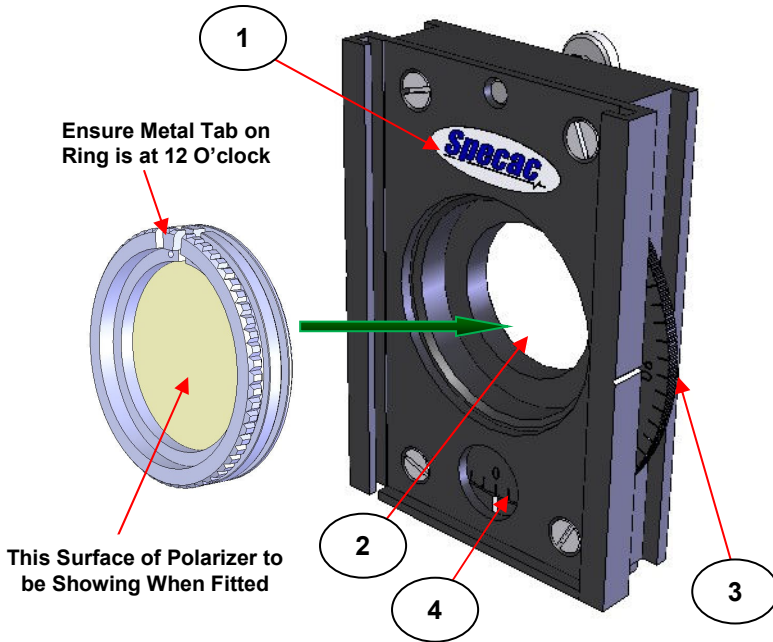
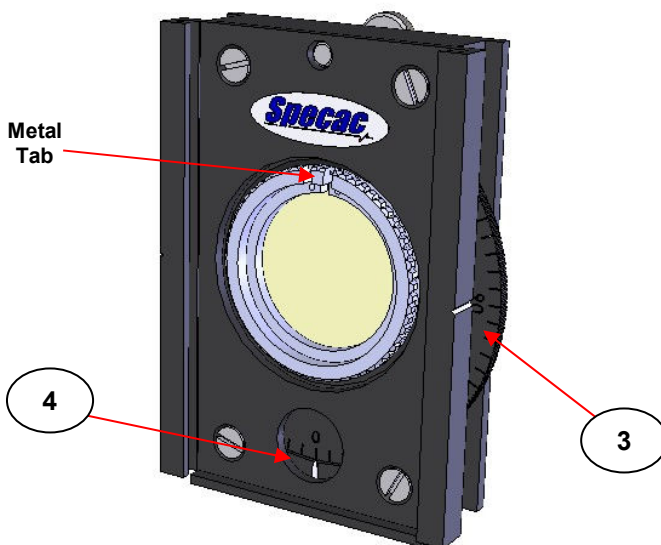

Fig 3. Insertion of GS12000 Series Polarizer into the Polarizer Rotator 3" x 2" Slide Mount
Fig 4. A GS12000 Series Polarizer Fitted into P/N GS12500
As shown at Fig 3. and Fig 4. please see how a GS12000 Series polarizer is fitted into the polarizer rotator 3" x 2" slide mount (1).
From **Fig 3.** the GS12000 Series Polarizer is to be positioned within the aperture (2) of the rotatable mount (1) with the knurled surface side of the spring clip ring mount of the polarizer facing outwards such that the metal tab is seen. In this way the polarized grid deposited on the surface side of the substrate material of the polarizer is facing inwards to aperture (2) of the rotatable mount (1) and helps to minimize any risk of accidental touching of this surface from finger print marks, when installing the polarizer.
As shown in **Fig 3**, the metal tab on the spring clip ring mount of the GS12000 Series polarizer should be aligned for insertion into the aperture (2) at a 12 O'clock position with respect to the polarizer circular face. (See **Fig 4**.) When the polarizer is installed in this position in the aperture (2), the lines of parallelism of the polarizer grid are running from the 12 O'clock to the 6 O'clock position of the polarizers circular face. When inserting the polarizer in this orientation ensure that the angle mark showing in the rotator mount (1) viewing window (4) is set at the 0° (zero degrees) position by necessary rotation of the graduated wheel (3). The lines of parallelism for the polarizer grid can be considered to be at an angle of 0° (zero degrees) and by convention in this orientation of the polarizer, light that is S (perpendicular) polarized is transmitted through the polarizer.